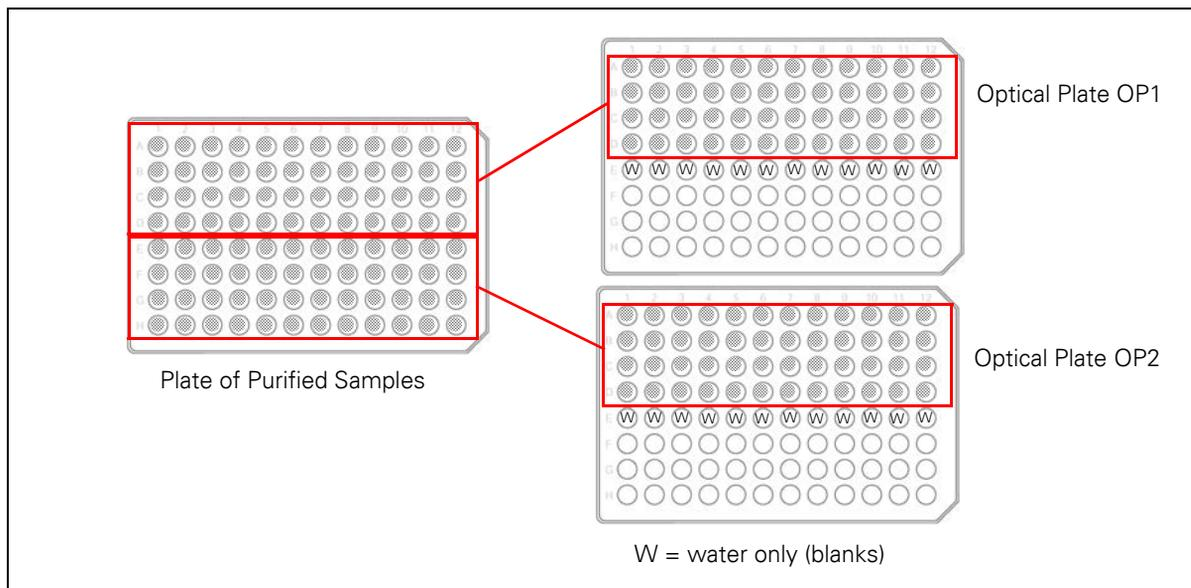

Figure 5.14 Loading the Optical Plate with Purified Sample and Water Blanks
- 1) Transfer 2 μL of each purified PCR product from rows A through D of the purified sample plate to the corresponding rows and wells of optical plate OP1 (see Figure 5.14 on page 214).
- 1) Transfer 2 μL of each purified PCR product from rows E through H of the purified sample plate to rows A through D of optical plate OP2 (see Figure 5.14 on page 214).